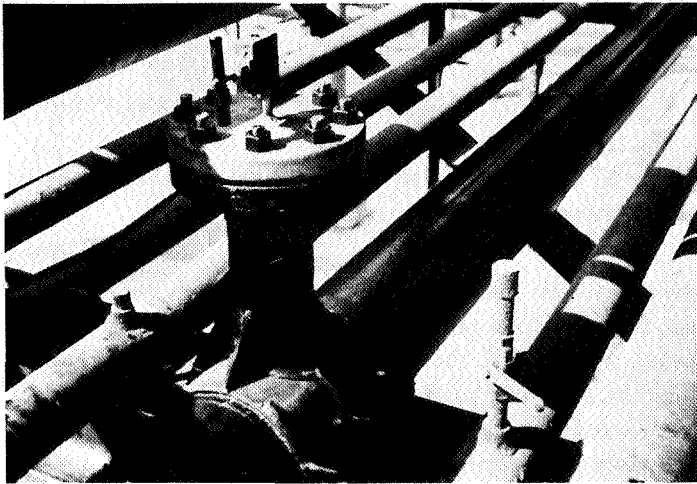

Figure 2. The boot in Figure 1 as actually installed at Agrico's Donaldsonville, La., 1,000-ton/day ammonia plant.
2. Effect of trace alloying elements is shown in Fig. 2.